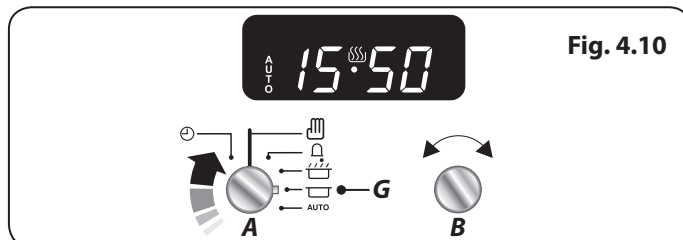

Fig. 4.10
2. Turn the **Timer (A)** knob to the **Stop Time (G)** setting (**Fig. 4.10**). The display will show the current time of day plus the 'cook time' you just set.